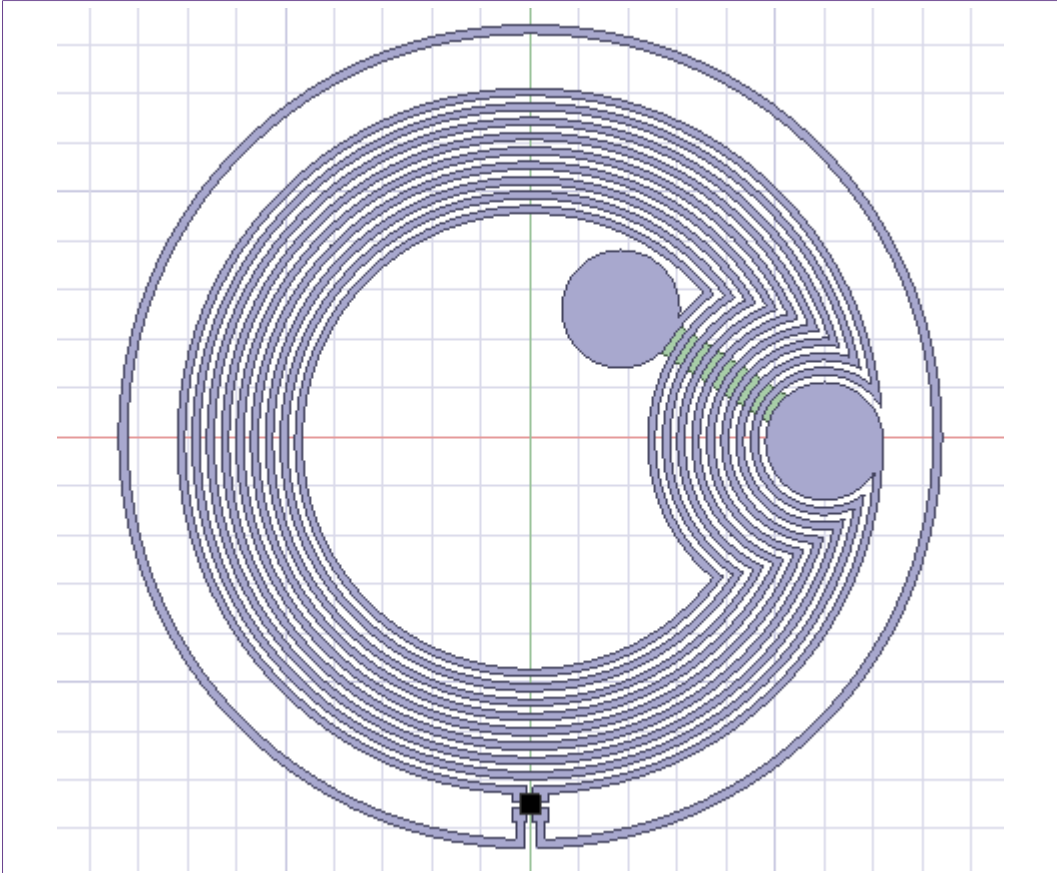

Figure 5. Tamper loop circumference
2. Avoid tamper loop circumferencing tag's antenna [Figure 5]